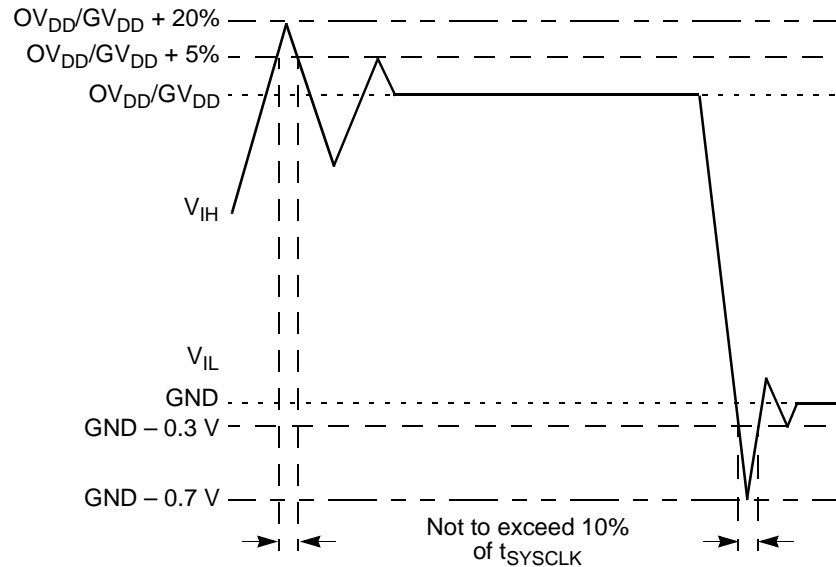

Figure 2. Overshoot/Undershoot Voltage
- V_{in} may overshoot/undershoot to a voltage and for a maximum duration as shown in Figure 2.
Figure 2 shows the undershoot and overshoot voltage on the MPC7457.